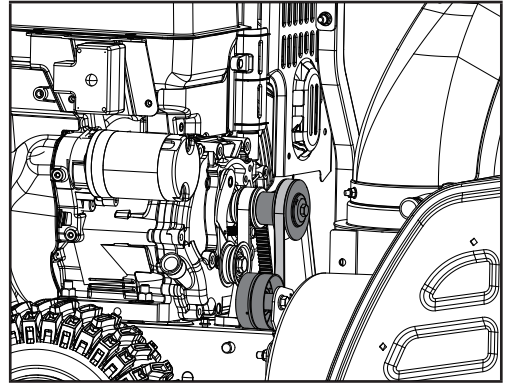

Figure 31
9. With the belt properly placed on both the front pulley and the auger drive pulley, pull the auger idler pulley back away from the belt and slip the belt inside the pulley. You can pull the recoil to rotate the pulley to help get it seated (Fig. 31).